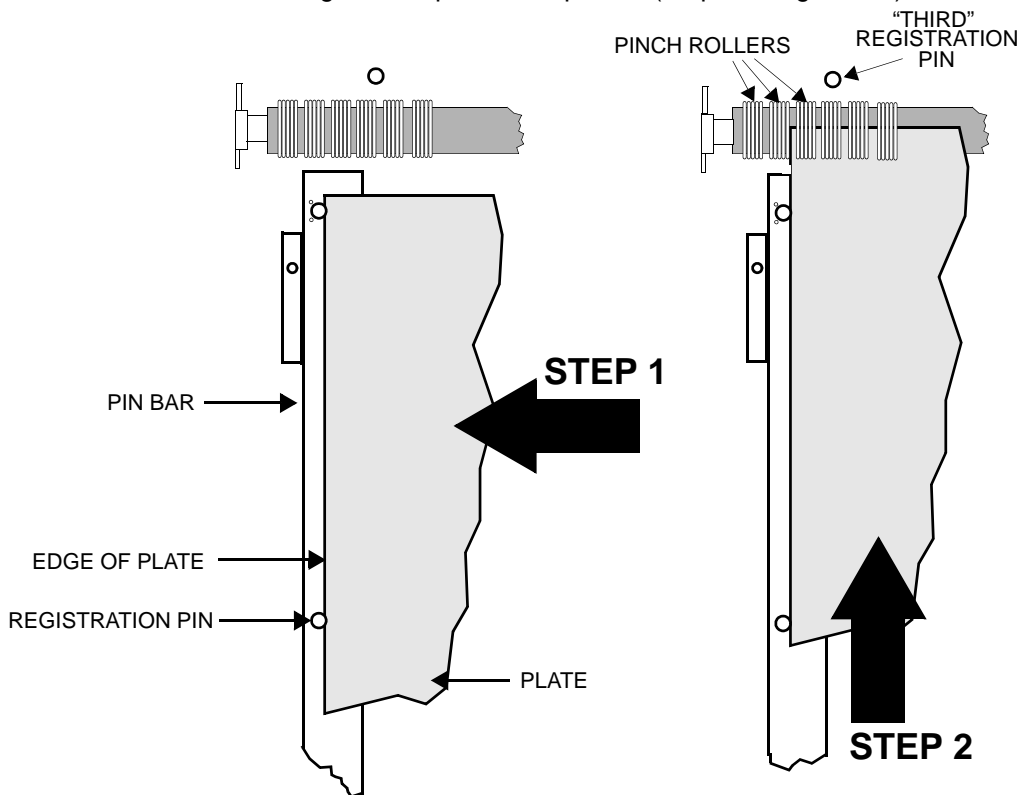

Figure 3-6 Loading Edge-registered Plates
Step 4. Push the plate to the left so that the edge of the plate contacts the registration pins in the pin bar (Step 1 in Figure 3-6).